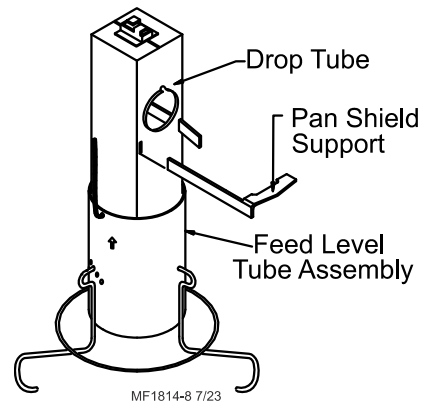

Figure 16. Drop Tube Installation
6. Insert drop tube into feed level tube assembly, **see figure 16**. Install the pan shield supports in the slots in the drop tube.